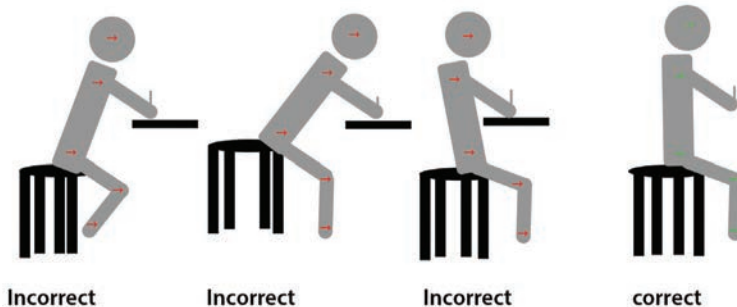

Fig. 10.3 Incorrect and correct postures while working on a table
- Follow the correct posture while working on a table for wiring or soldering as shown in Fig. 10.3.